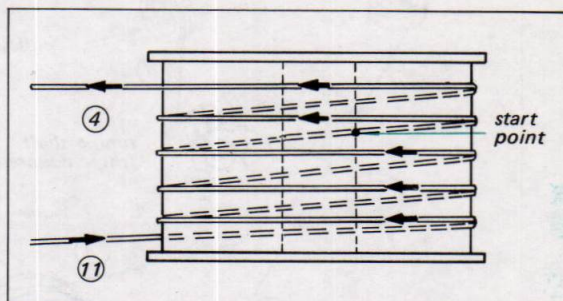

Fig. 2-10. Wrapping the dial cord
2. Run the cord through the slot in the rim of the drum and wrap one and half counterclockwise turn in the inner side groove. See Fig. 2-10.
4. Run the cord over pulleys "B", "C" and "D", then wrap three counterclockwise turns around the drum from outer groove to inner groove as shown in Fig. 2-10.